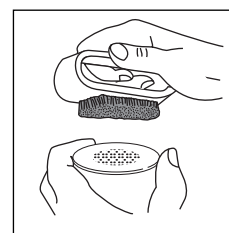

fig. 20
- Rinse all components and clean the metal filter thoroughly in hot water using a brush (fig. 20).